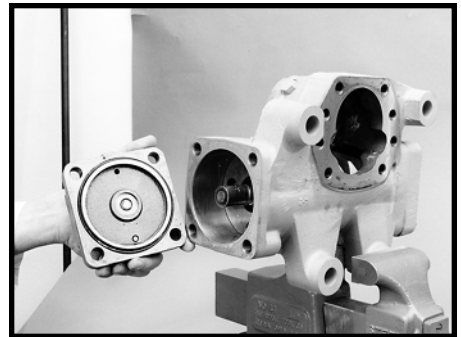

Figure 57
17. Remove the end cover (37). Some fluid will drain. SEE FIGURE 57.